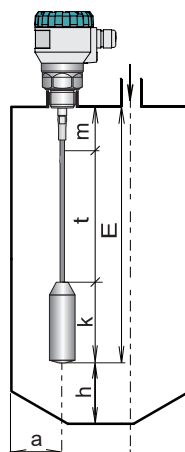

Fig. 20: Level meter installation with the rope electrode
- When calculating the length of the rope electrode, it is necessary to take into account that the measurement takes place only up to the upper edge of the weight, i.e. it is advisable to choose the electrode length so that the whole weight is below the minimum measured level, see Fig. 20. **For variants 30 and 34, it is possible to shorten the rope electrode.**
- The distance the electrode from the tank wall** see page 9. Otherwise, the level meter install as far as possible from the walls, to the middle between the wall and the vertical inlet, see Fig. 20. It must be ensured that the rope electrode could not touch the vessel wall caused by the motion of the medium. In the case of an unanchored rope electrode, its end must not extend into the conical part of the storage tank.